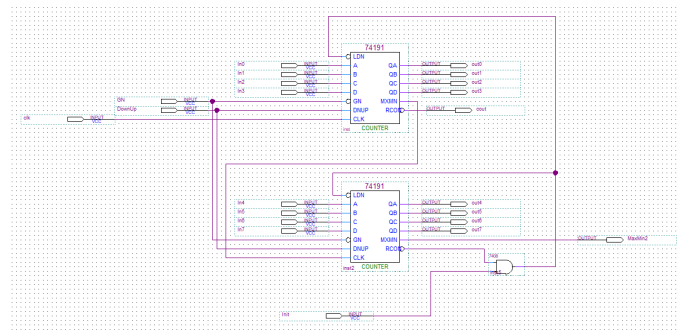

Figure 15
- A clearer picture of Figure15 exists in Project/Part3/Section2 folder.